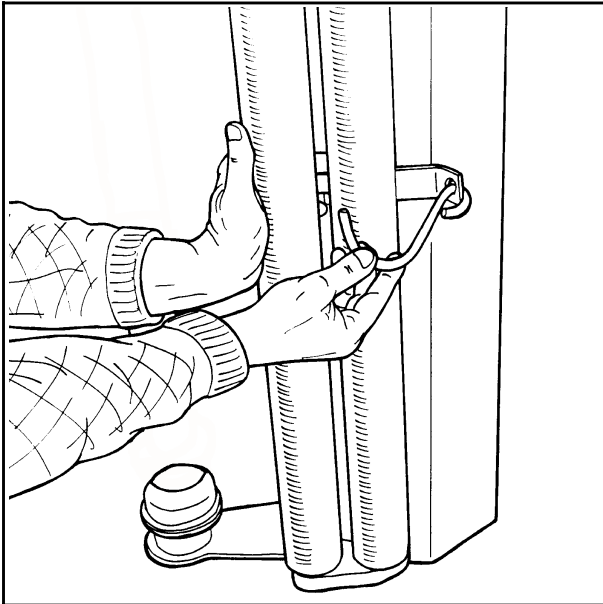

Fig. 6-1
- 6.1 When the plastic roll shall be mounted, you have to hold the prestretcher-rollers aside, Hold the rollers aside and put on the holding hook. (See fig. 6-1).